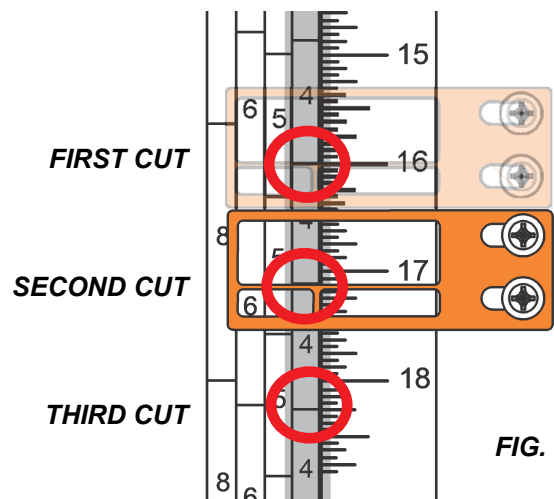

FIG. 4-10
2. Adjust the quarter scale so a 4/4 mark (highlighted gray in Fig. 4-10) is aligned with the line on the indicator.